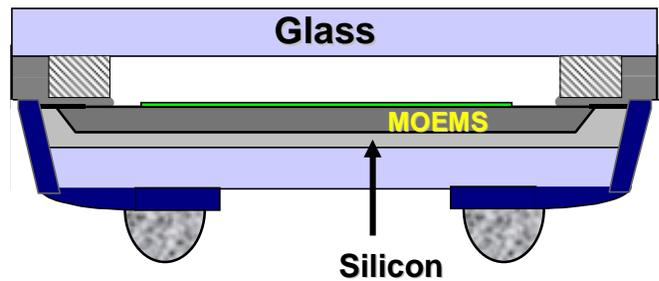

Figure 7 - ShellOp
Let's now look at some of the new SMT packaging concepts for MOEMS. The idea here is to keep size and cost low while enabling light transmission, hence "packages petite and light". There are at least three approaches: (1) transparent lids, (2) transparent substrate (chip carrier), (3) optical encapsulants and (4) light pipes. Concept (1) has already been designed and prototyped by Chip Scale Package (CSP) manufacturer ShellCase. Their ShellOp™ package uses a glass cover to enable light transmission. The product is in testing but reliability data has not yet been reported. This MOEMS-capable package could be assembled using SMT methods and does not require underfill. The ShellOP package appears to be the only wafer level chip size package solution available today for image sensors. Its total package thickness is 0.6 mm. Figure 7 shows the package concept.